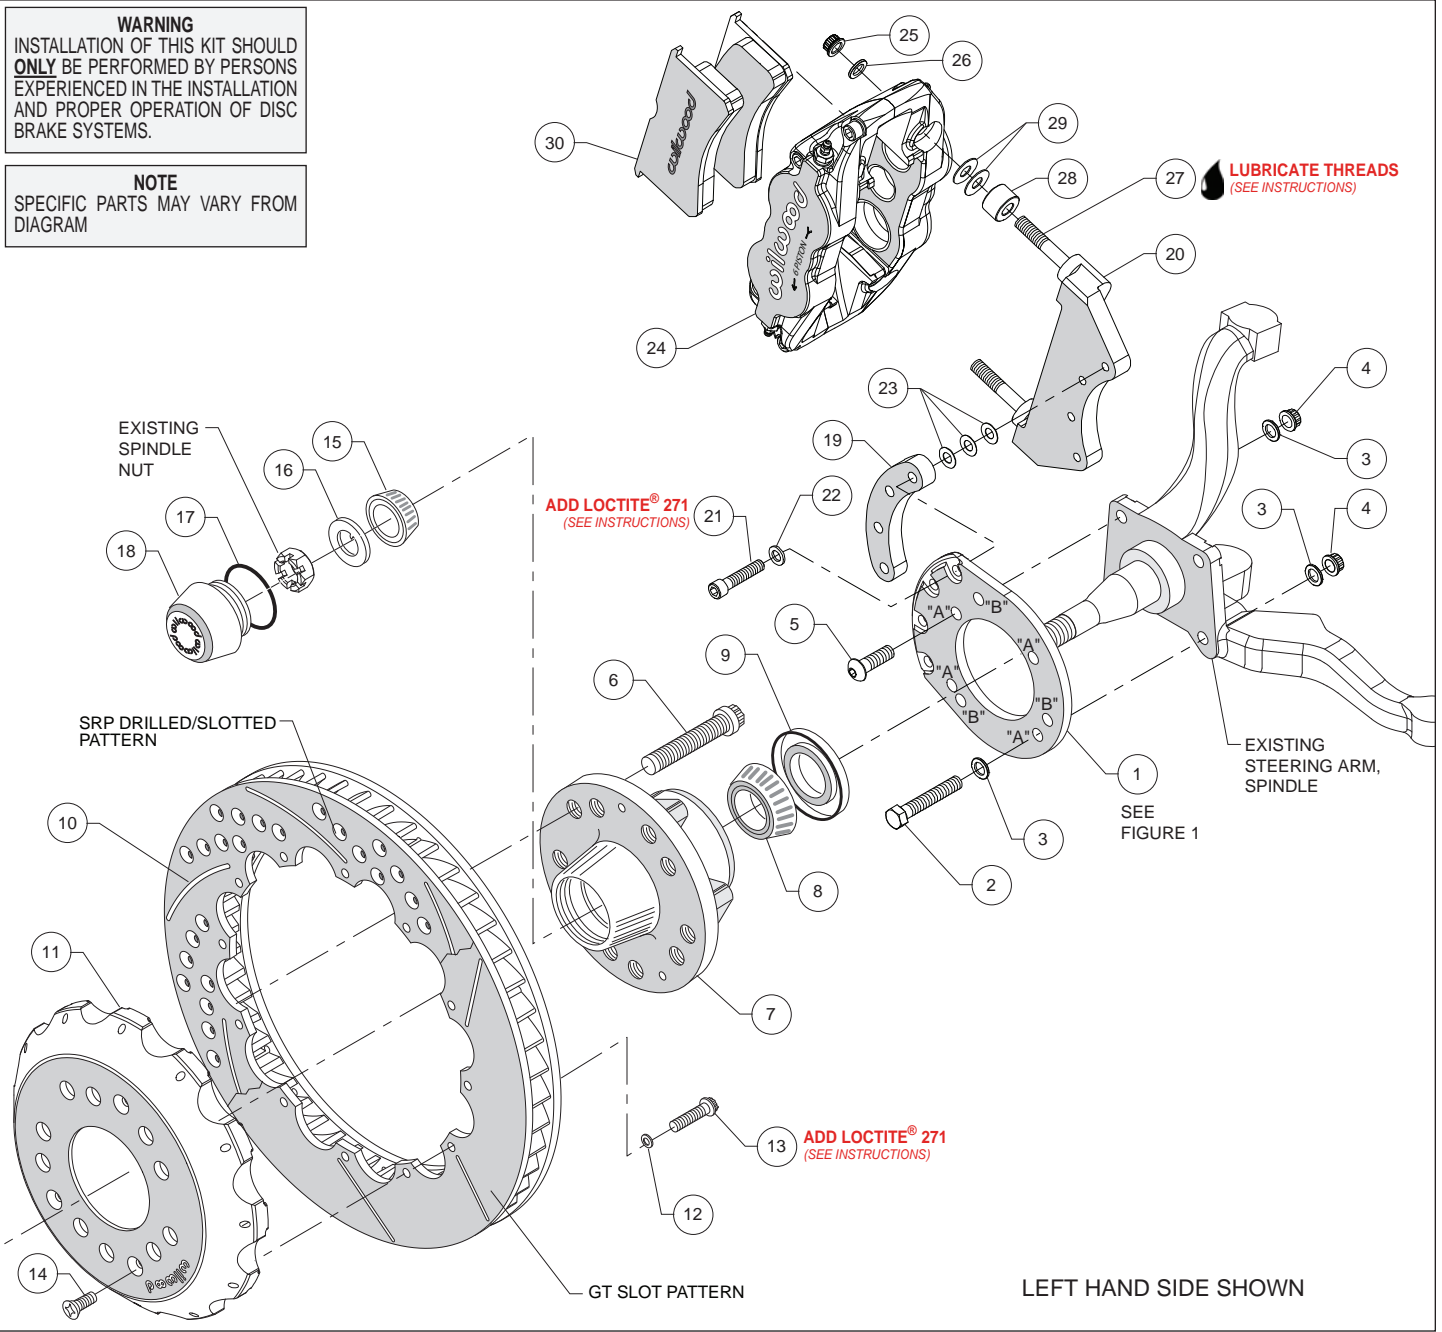

Figure 2. Typical Installation Configuration
Assembly Instructions (numbers in parenthesis refer to the parts list and Figure 2 on the preceding pages):
•Align bracket, using the four "A" holes, to the face of the spindle and attach using bolts (2 and 5), washers (3), and lock nuts (4), as shown in Figure 2 and Photo 1. Temporarily tighten the mounting bolts. **NOTE:** The bracket must fit squarely against the mounting points on the spindle. Inspect for interference from casting irregularities, machining ridges, burrs, etc. Torque lock nuts (4) to 25 ft-lb.
•Orient the rotor (10) and the hat (11) as shown in Figure 2 and Photo 6. Attach rotor to hat using bolts (13) and washers (12). Using an alternating sequence, apply red Loctite® 271 to the
- Slide the hat/rotor assembly (10/11) onto the hub (7) taking care to align the small countersunk holes in the hat with the small threaded holes in the hub (7). **NOTE:** The hat must fit flush against the hub face or excessive rotor run out may result. Install three flat head screws (14) through the small holes in the hat, Photo 5, and torque to 85 in-lb.
- Attach the caliper mounting bracket (20) to the spindle bracket (1) using bolts (21), washers (22), and spacer (19) as shown in Figure 2 and Photo 7. Initially place three .015" thick shims (23) on each bolt between the spacer and the caliper bracket. Temporarily tighten the mounting bolts. Later, after the caliper alignment has been checked, the mount bolts will be secured using red *Loctite*® 271.
- **NOTE:** This kit contains distinct right and left hand calipers that must be mounted in a specific direction, as described below. Lubricate the caliper mounting studs (27) with lightweight oil. Initially place two .035" thick shims (29) and spacer (28) on each stud between the caliper and the bracket, as shown in Figure 2 and Photo 8. Mount the caliper (24) onto the bracket (20) using lock nuts (25) and washers (26), Figure 2. Ensure that the caliper is mounted so the largest pistons are at the rotor exit end of the caliper, in relation to the direction of rotor rotation. Temporarily tighten the lock nuts and view the rotor through the top opening of the caliper. The rotor should be centered in the caliper, Photo 9. If not, adjust by adding or subtracting shims (23) between the caliper bracket (20) and the spacer (19). Always use the same amount of shims on each of the four mounting bolts. Once the caliper alignment is correct, remove the bracket mounting bolts one at a time, apply red *Loctite*® 271 to the threads, and torque to 25 ft-lb.